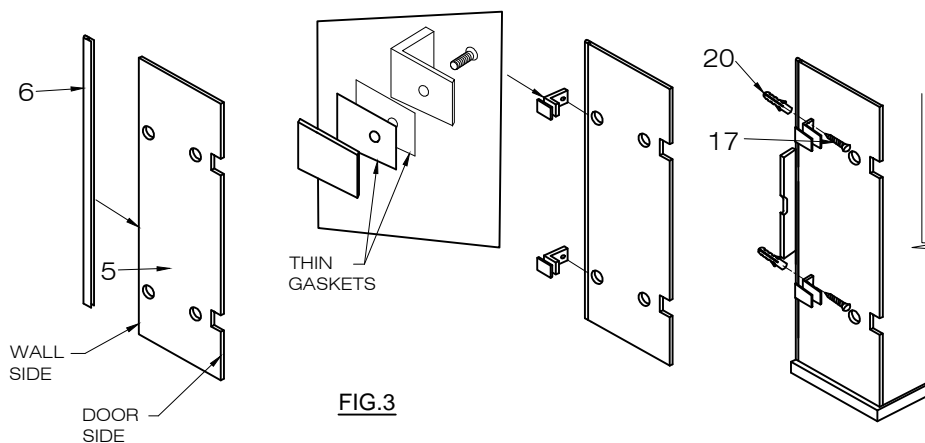

FIG.3
2. Install the seal strip (#6) to the wall side of the front glass panel (#5). [SEE FIG.3]